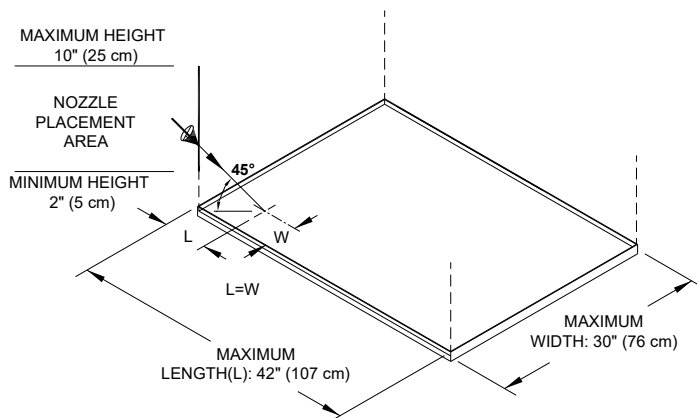

Figure 3-19a.
The **Model N-2W** nozzle is a two (2) flow point nozzle that can protect a griddle with a maximum cooking area of 42" (107 cm) wide by 30" (76 cm) deep. The nozzle must be located 2" (5 cm) to 10" (25 cm) above any corner of the cooking surface and positioned on the edge of the cooking area of the griddle. The nozzle must be aimed at the point over the cooking surface equal distance from both edges. See **Figure 3-19a**.